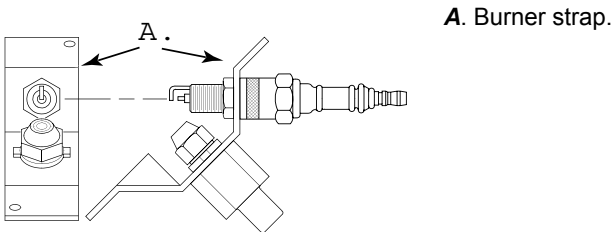

Figure 13 – Spark plug rotation, 35.000 Btu/Hr model.
10. Replace burner strap onto spark plug. Rotate burner strap to position spark plug electrodes (see Figure 13).